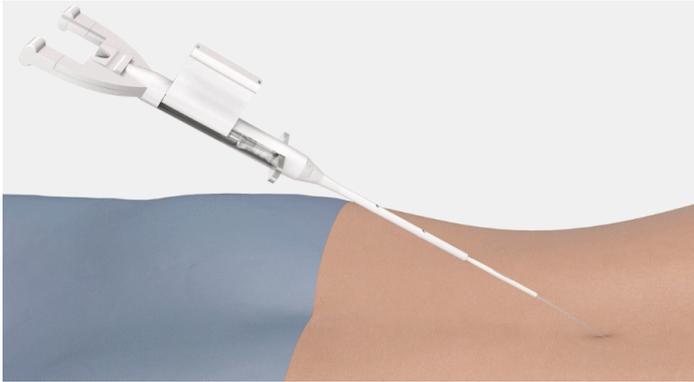

Figure 6
4. Insert the Proximal tail of the Electrode Array through the distal mouth of the Injectroducer (see Figure 6).